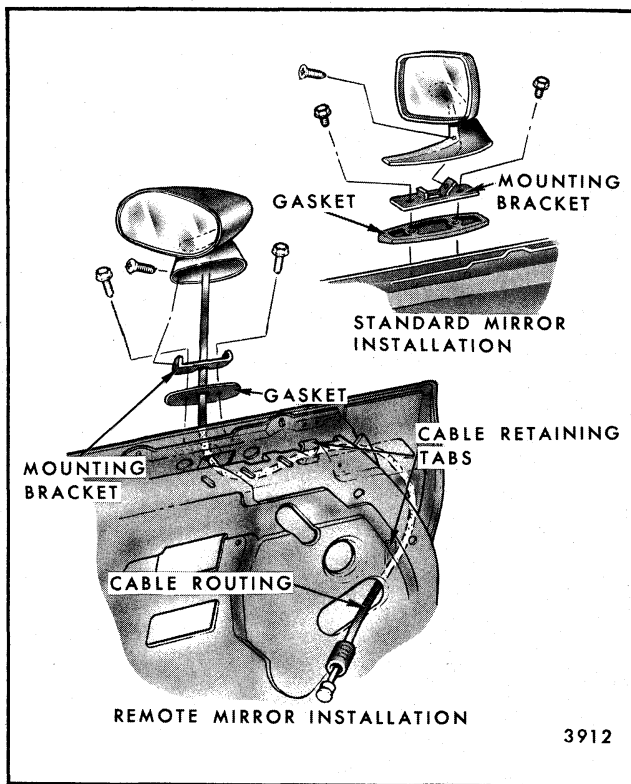

Fig. 5-95-Door Outside Remote Mirror Removal - "F, H and X" Styles - Left Side Only
1. Remove door trim assembly and peel inner panel water deflector back sufficiently to gain access to remote mirror cable. Then detach remote cable from retaining tabs on inner panel reinforcement (refer to Fig. 5-95).
1. Remove attaching screw in base of mirror and remove mirror (Fig. 5-95).